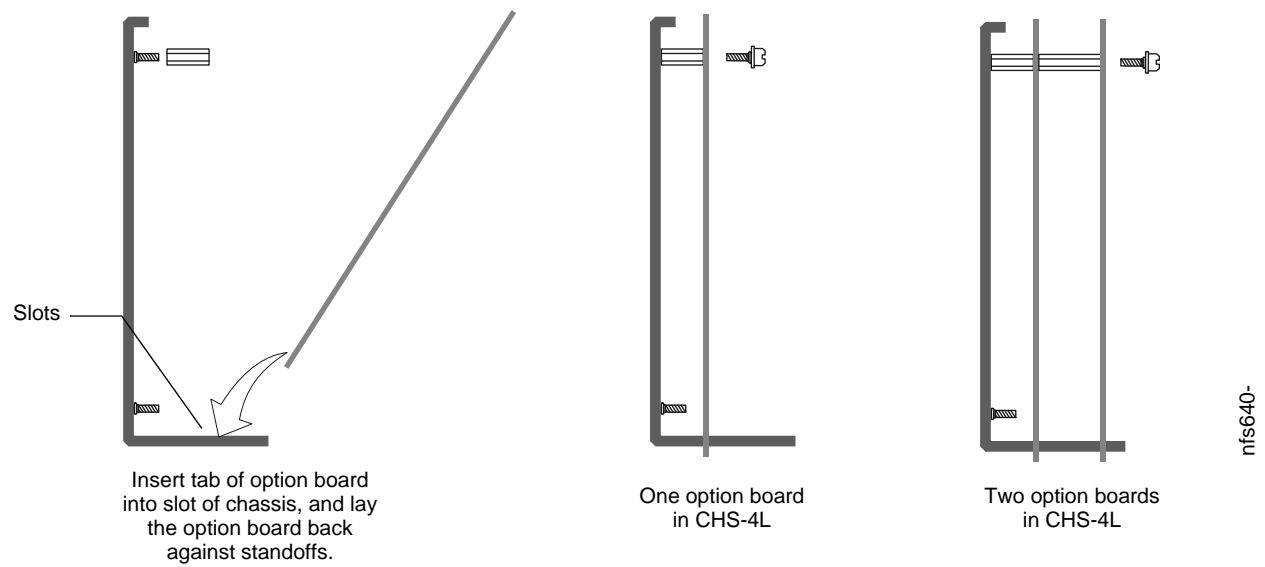

Figure 3.9 Mounting an Option Board in a Chassis (CHS-4L Shown)
1. Slide the tabs at the bottom of the option board into slots on the chassis as shown in Figure 3.9.